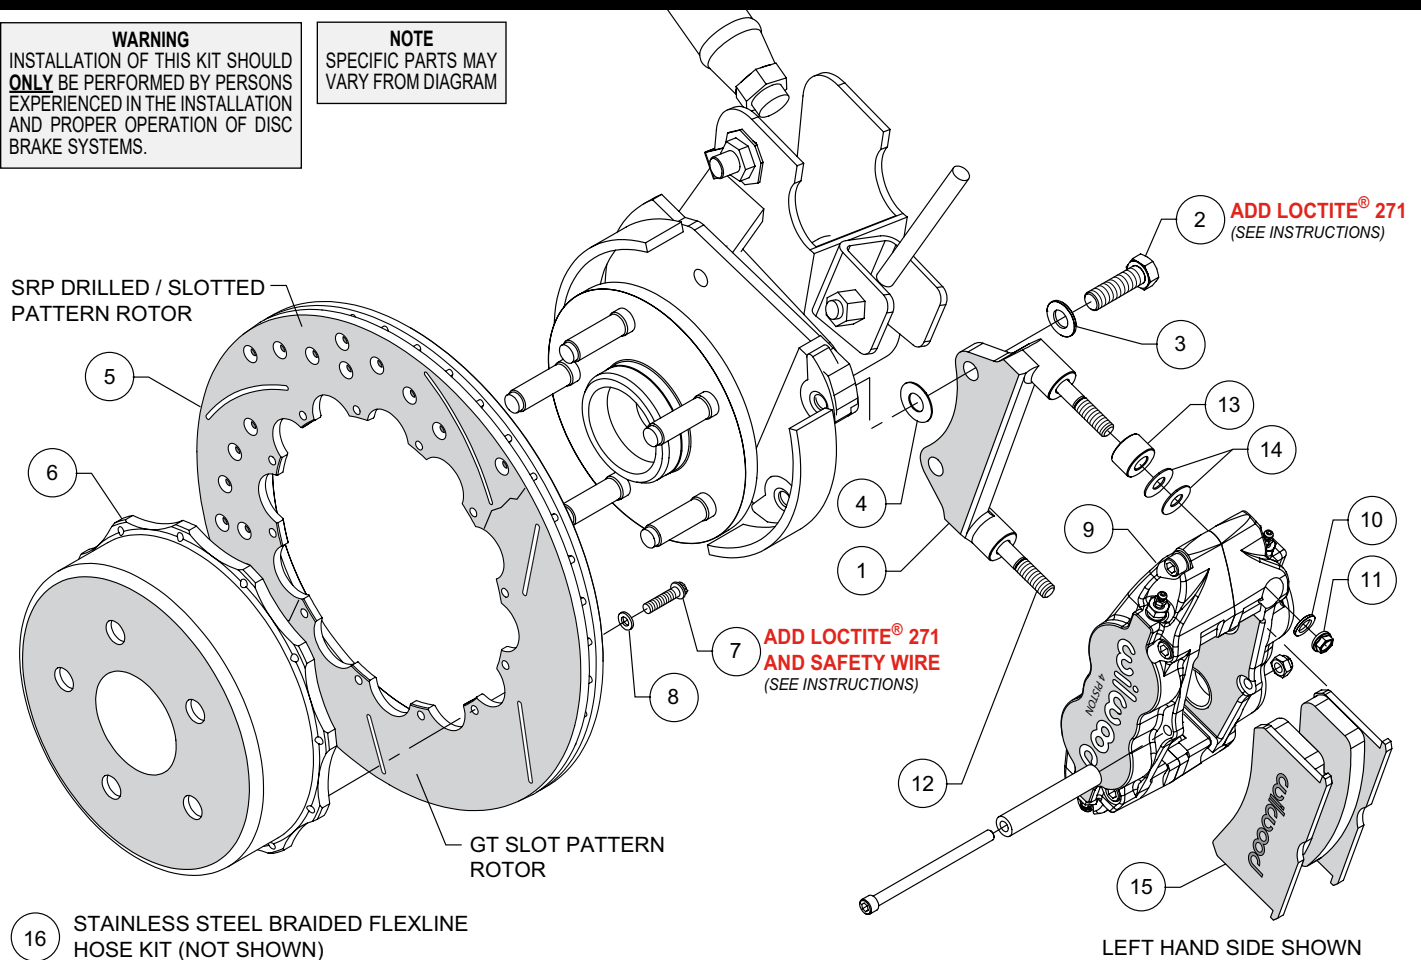
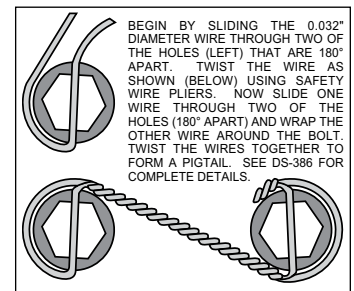

Figure 1. Typical Installation Configuration
Figure 3. Safety Wire Diagram
**Assembly Instructions** (numbers in parenthesis refer to the parts list and Figure 1 on the preceding pages):
•The caliper mount bracket (1) should initially be installed with clean, dry threads on the mounting bolts. Orient the bracket as shown in Figure 1, and install using mount bolts (2) and washers (3). Initially place one .033" thick shim (4) on each bolt between the bracket and upright, Figure 1. Temporarily tighten the mounting bolts. **NOTE:** The bracket must fit squarely against the mount bosses on the upright. Inspect for interference from casting irregularities, machining ridges, burrs, etc. Later, after the caliper alignment has been checked, the mount bolts will be secured using red *Loctite*® 271.
•Orient the rotor (5) and the hat (6) as shown in Figure 1 and Photo 2. Attach rotor to hat using bolts (7) and washers (8). Apply red *Loctite*® 271 to the bolt threads and torque to 140 **in-lb** using a criss-cross pattern. The bolts must be safety wired using standard 0.032 inch diameter stainless steel safety wire as shown in Figure 3. Please refer to Wilwood's data sheet DS-386 (available at [www.wilwood.com/Pdf/DataSheets/ds386.pdf](http://www.wilwood.com/Pdf/DataSheets/ds386.pdf)) for complete safety wire installation instructions.
•Initially place one spacer (13) and two .035" thick shims (14) on each stud (12) as shown in Figure 1 and Photo 4. Mount the caliper (9) onto the bracket (1) using lock nuts (11) and washers (10), Figure 1. Temporarily tighten the lock nuts and view the rotor through the top opening of the caliper. The rotor should be centered in the caliper, Photo 5. If not, adjust by adding or subtracting shims (4) between the bracket and the mounting bosses. Always use the same amount of shims on each of the two mounting bolts. Once the caliper alignment is correct, remove the bracket mounting bolts one at a time, apply red *Loctite*® 271 to the threads, and torque to 60 ft-lb.
•Remove the caliper center bridge pad retainer bolt, nut, and tube from the caliper. Insert the brake pads (15) into the caliper, with the friction material facing the rotor, as shown in Photo 6. Check that the top of the brake pad is flush with the outside diameter of the rotor, Photo 7. If not, adjust by adding or subtracting shims (14) between the caliper and the bracket. After the caliper pad